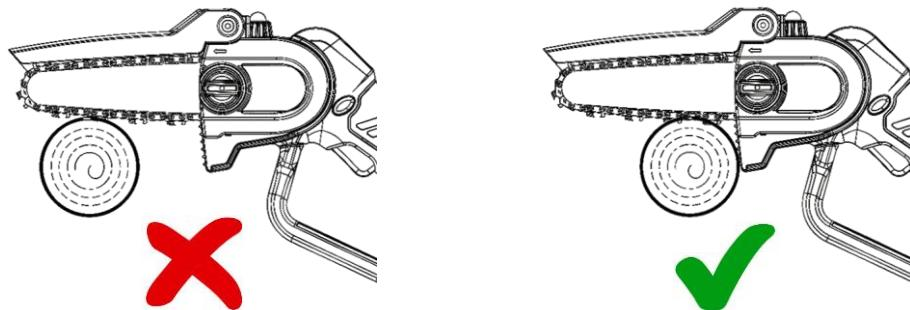

Fig. 9
Cutting (Fig. 9)
- Engage the cut with holding the tool firmly in place to avoid possible bouncing or skating, see Fig. 9.